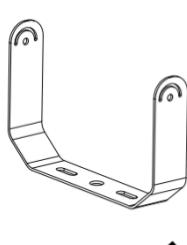

FIG.31
- 1) Select U shape bracket and M10*90mm expansion screws, drill two holes on the wall or ground, 150mm distance.(See FIG.31 to FIG 33)